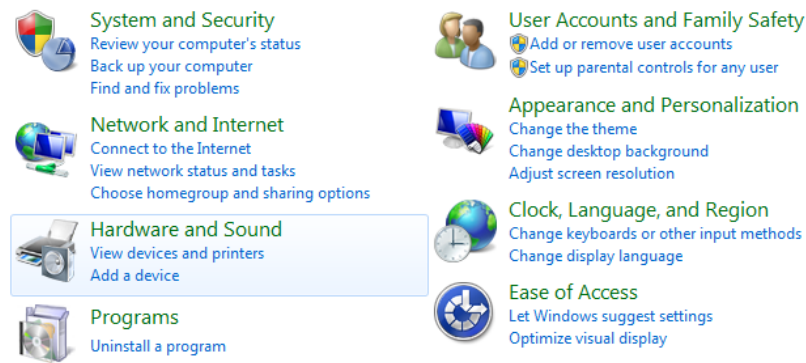

Fig. 2-23
- ◆ Press the Windows start button to bring up the start menu and select “Control Panel” (Fig.2-23).